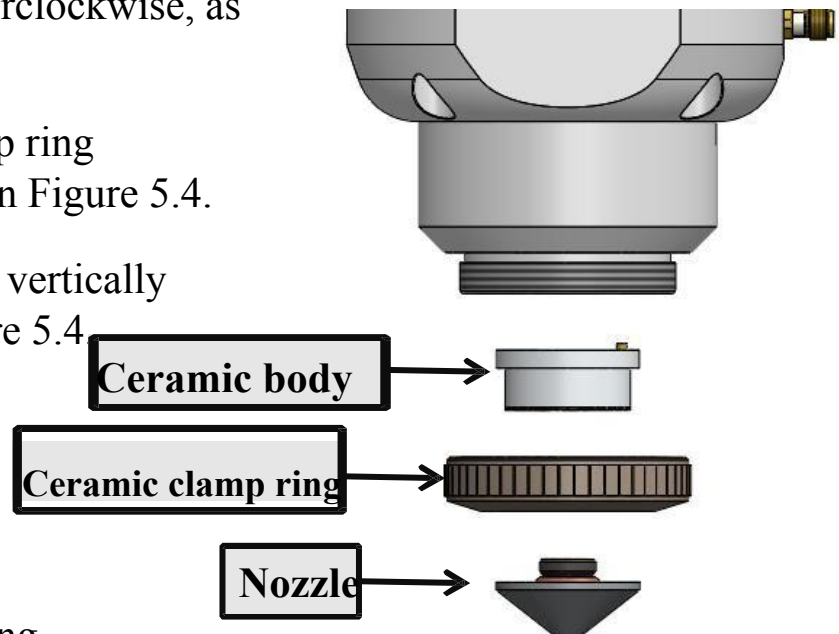

Figure 5.4
- ① Remove the nozzle counterclockwise, as shown in Figure 5.4.
- ② Remove the ceramic clamp ring counterclockwise, as shown in Figure 5.4.
- ③ Remove the ceramic body vertically downward, as shown in Figure 5.4.